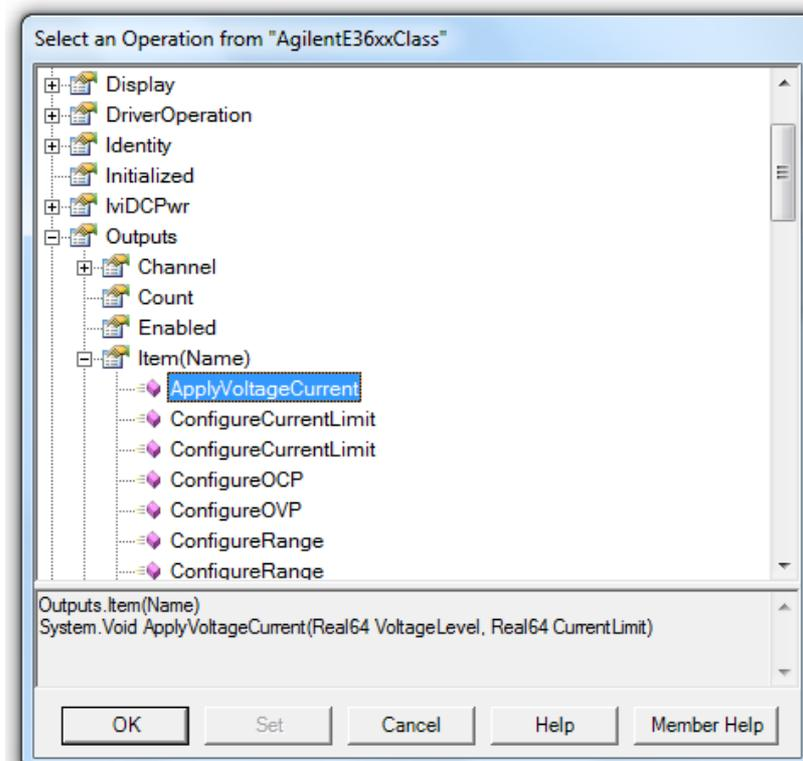

Fig. 15: Selecting ApplyVoltageCurrent for IVI driver object
10) Double click on the <Double-Click to Add Operation> bar of the HPE3631A IVI Driver. Select **Outputs** → **Item(Name)** → **ApplyVoltageCurrent** as shown in Fig. 15 and click **OK**.